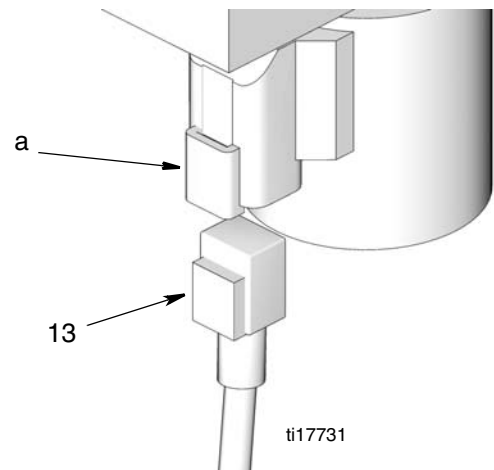

FIG. 8
- Connect cable connector (13) to solenoid valve (a) (FIG. 8).